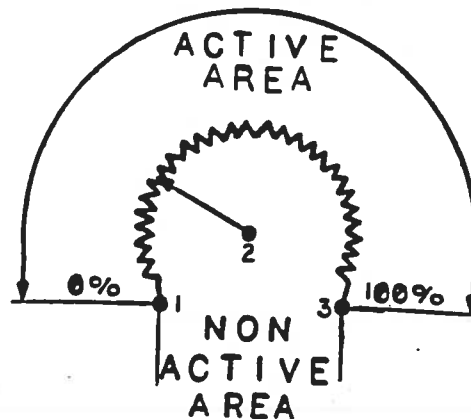

Fig. 1b
4. Temporarily leave the voltmeter leads connected to the feedback potentiometer. Turn on the power. Run the actuator in the direction of the MAXIMUM command signal limit switch. Notice on the meter the potentiometer resistance should increment gradually from 20 Ohms to the maximum value of the potentiometer (1000 Ohms). If the resistance reading exceeds the maximum value and enters into the non active area of the potentiometer before the MAXIMUM command signal limit switch stops the actuator (fig. 1b), the MAXIMUM command signal limit switch will have to be reset.